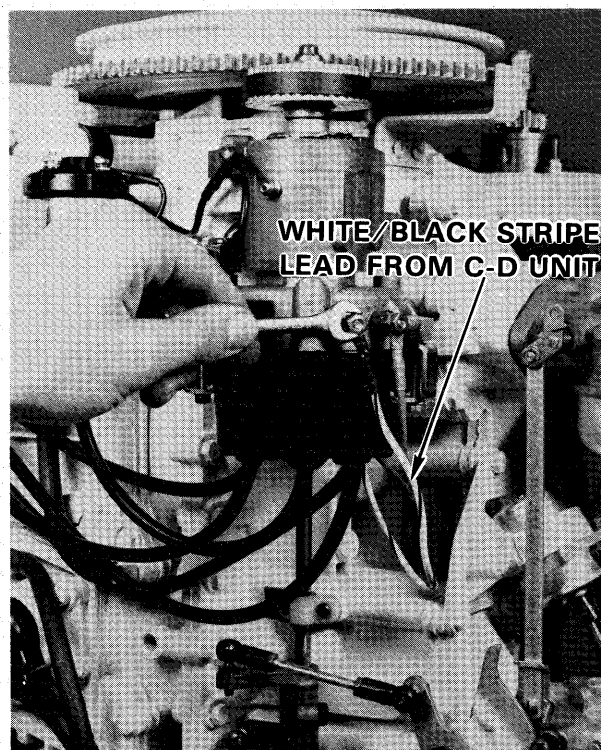

Figure 5A—Removing Lead from Distributor
- C. Remove white/black stripe lead from terminal on distributor housing. See figure 5A.